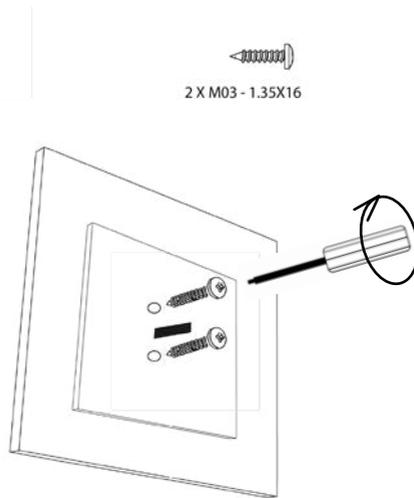

Fig. 3 Tightening the screws
- Next, attach the control unit to the cabin wall with the two included screws (see Fig. 3).